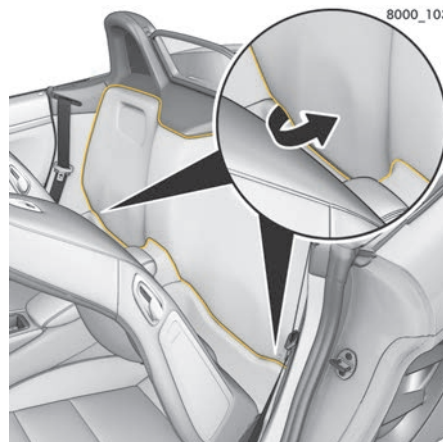

Fig. 61: Accessing the convertible top drive
2. Insert your hand between the gap in the carpet (Fig. 61) and carefully pull out the carpeting from below along the belt reel trim and fold over.